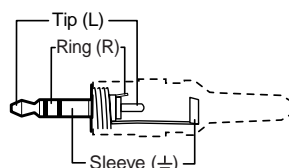

Figure 2-3 — Input 6 through input 8 audio connector wiring
- ⑧ **Input 1 through Input 5 connectors** — Connect unbalanced stereo or mono audio sources (such as DVD players or VCRs) to these pairs (left and right) of RCA connectors for audio input.
- ⑨ **Input 6 through Input 8 connectors** — Connect unbalanced stereo audio sources (such as computers) to these 3.5 mm mini stereo jacks for unbalanced audio input. Figure 2-3 shows how to wire the audio jack.